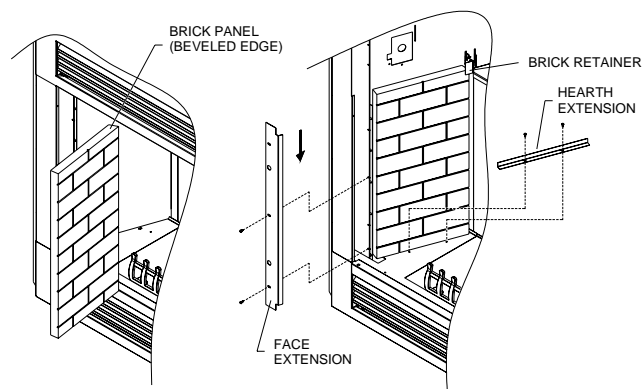

Figure 18 - Installing Brick Panels and Brackets
5. Insert the brick panel, with the beveled edge first, through the firebox opening. Then tilt and angle the top edge into the brick retainer until the bevel edge contacts the imager and the panel is flat against the firebox (see **Figure 18**).